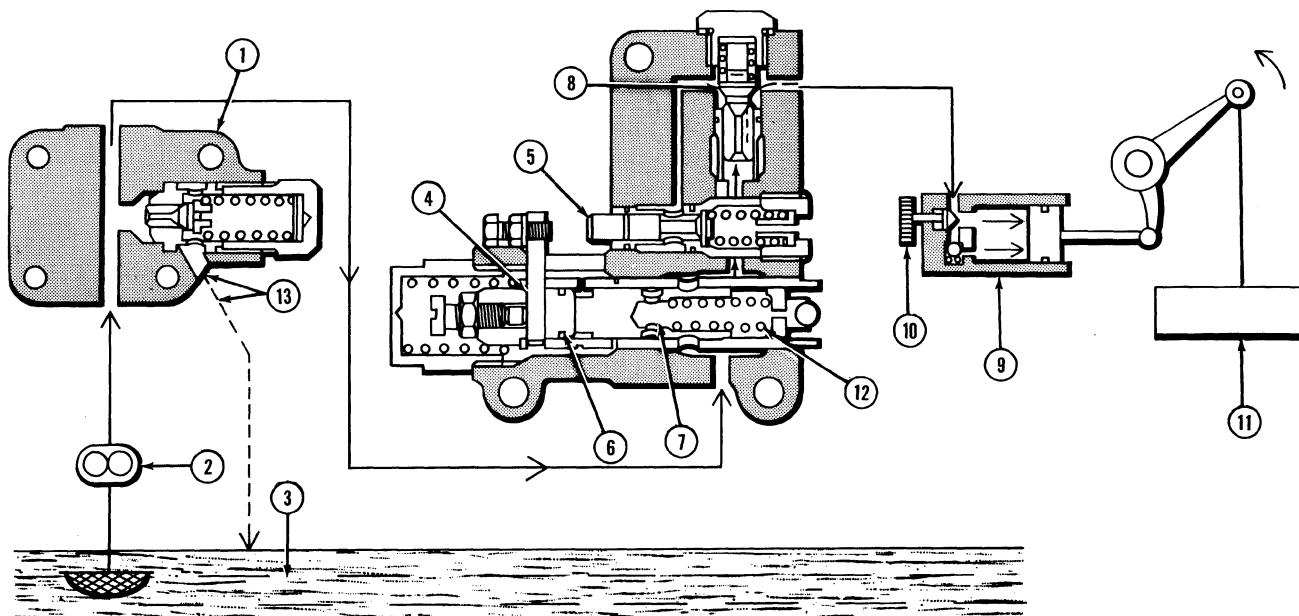

Figure 23
## Lifting Position (Figure 23)
When the control lever (4) is moved to the lift position, the spool (7) moves to the position shown in Figure 23. Oil passes through the relief valve (1) and acts on the pilot spool (7) and check valve (8). Concurrently, the pilot spool is forced to close by the pilot spool spring
(12). Since the spring pressure has more force than the oil pressure opposing the pilot spool, oil flows to the cylinder to lift the implement. When oil pressure in the system exceeds, 130 kg/cm2 (1849 psi) on the 1100 Tractor or 150 kg/cm2 (2133 psi) on the 1300-1900 Tractors, the relief valve (13) opens and oil is returned to the sump.